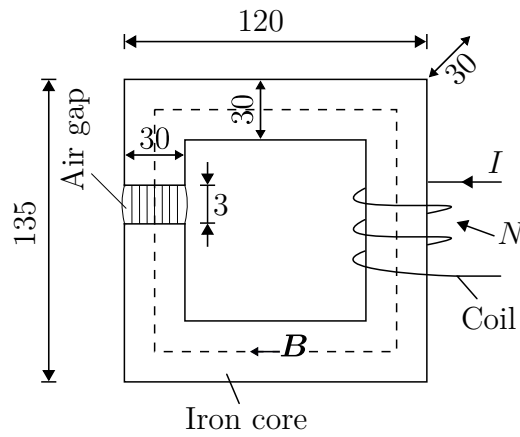

Figure 1.1.1: Simplified sketch of a magnetic iron core. All dimensions of the core are given in mm.
The iron core consists of thin single metal sheets with a cross-sectional area of $A = 900 \text{ mm}^2$ and with an air gap of $\delta = 3 \text{ mm}$. A simplified sketch is shown in Fig. 1.1.1. The material behavior of the selected iron is visualized in Fig. 1.1.2. The coil with N turns contains a direct current which results in a homogeneous magnetic flux density of $B_\delta = 1.8 \text{ T}$ in the air gap.
1.1.2 How big is the magnetic flux density B_{Fe} in the iron core at the dotted line in Fig. 1.1.1? Neglect the leakage flux.